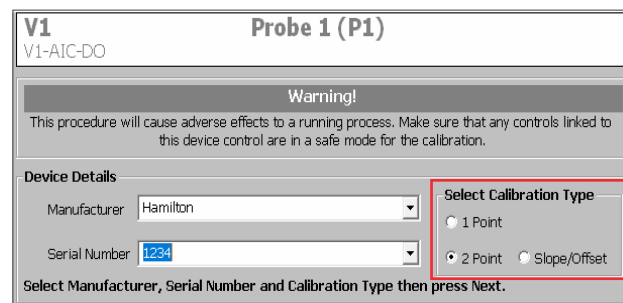

Figure 3.23. DO Calibration window.
3. Select the **2 Point** radio button under **Select Calibration Type** (Figure 3.23).